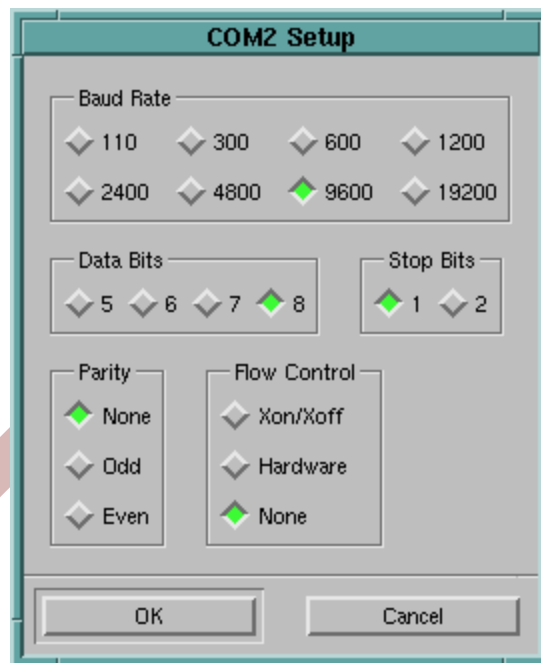

Figure 5-15 COM Setup Pop-up Window
2. The **Input Device** to be used for the navigation data can be chosen by clicking on the appropriate device tab (usually COM2). Navigation input is connected to the DA System via a serial port. The **Serial Setup** button may be used to pop up the **COM Setup** window, which allows the baud rate, the number of data bits, the number of stop bits, the parity and the method of flow control to be selected. These should be set to match those of the serial device sending the navigation data to the DA System. Selections are made by clicking on the appropriate toggle buttons; when a suitable selection has been made, click on the **OK** button in the **COM Setup** window. Figure 5-15, page 63 shows a **COM Setup** pop-up window.